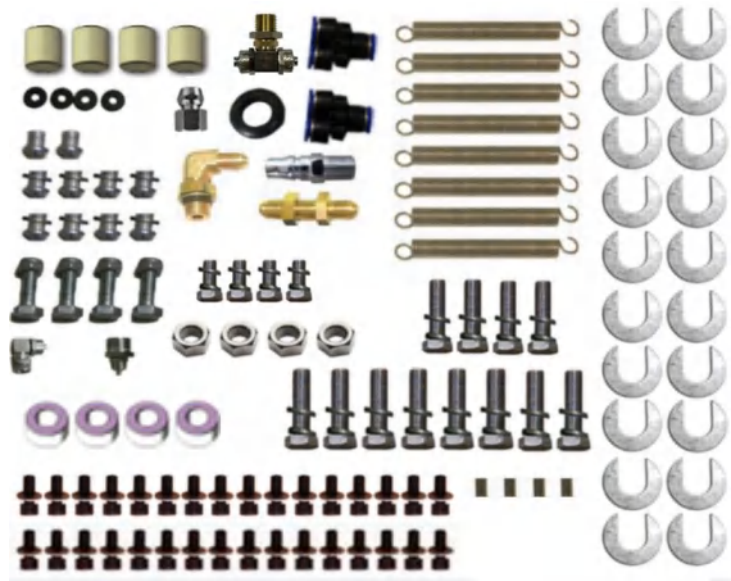

Fig. 9
7. Open the parts box and check the parts according to the parts box list (See Fig. 9).